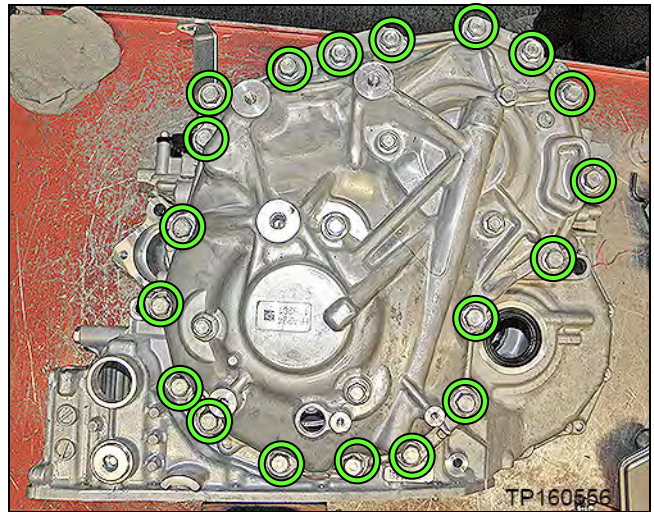

Figure 9F
7. Remove the nineteen (19) side cover fixing bolts (Figure 9F).